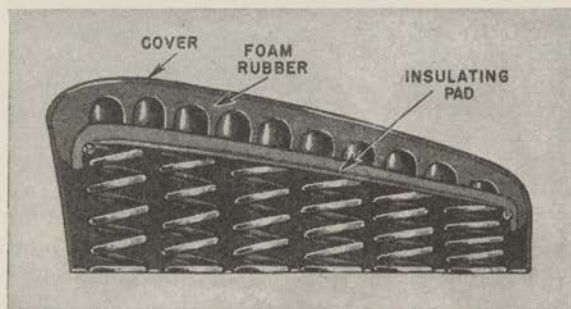

FIGURE 108.—Cross section of seat with foam rubber over springs.
b. Foam rubber over springs (fig. 108).—Foam rubber over springs may be substituted for cotton batting. Press the tacking tape on the foam-rubber pad inward against the coil springs and hog-ring it to them (par. 17j) to hold the pad securely in place. No twill covering is required. Sometimes a comparatively thin layer of cotton batting is added, between the foam pad and the cover.